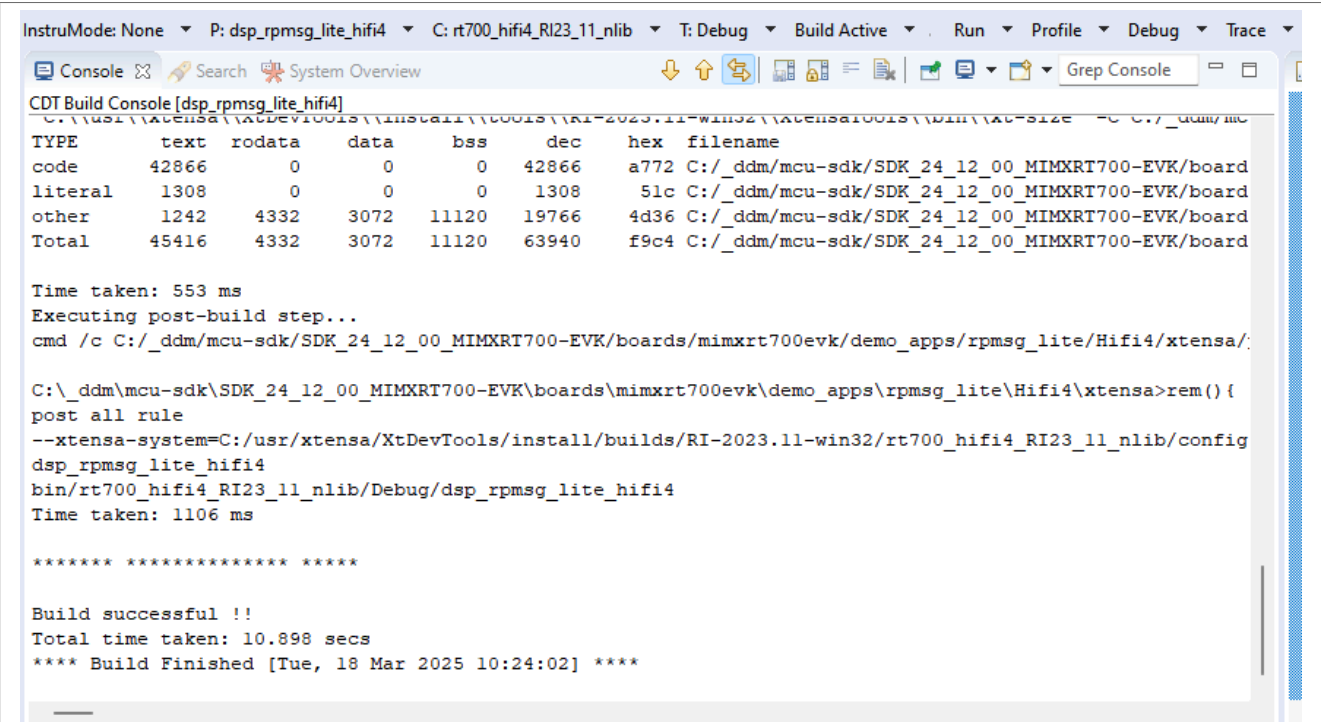

Figure 11. Build HiFi4 project in Xtensa Explorer
4. Build the project, as shown in Figure 11 and Figure 12. Use correct configurations for each project in the pulldown as shown in Figure 13: